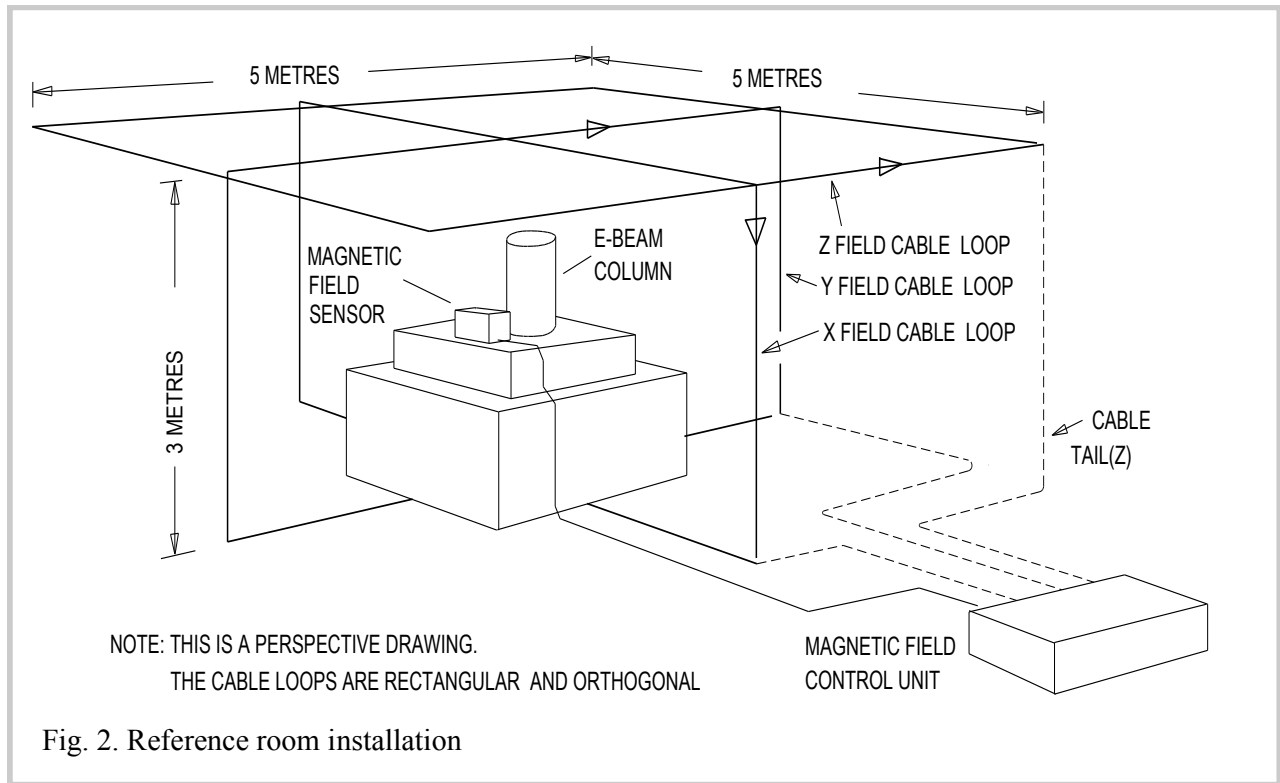

Fig. 2. Reference room installation
To specify the SC22 performance more rigorously, we use a reference room cable installation. This is shown in Fig. 2. The electron beam column is centred in the 3m x 5m X and Y loops (which cross over above and below the column) and the 5m x 5m Z loop. The SC22 specifications on page 6 apply to this reference room installation.
Measurement range (X & Y) ^(note:1)	60 mG (6 μ T) pk-pk (installation Fig. 2)
Measurement range (Z) ^(note:1)	45 mG (4.5 μ T) pk-pk (installation Fig. 2)